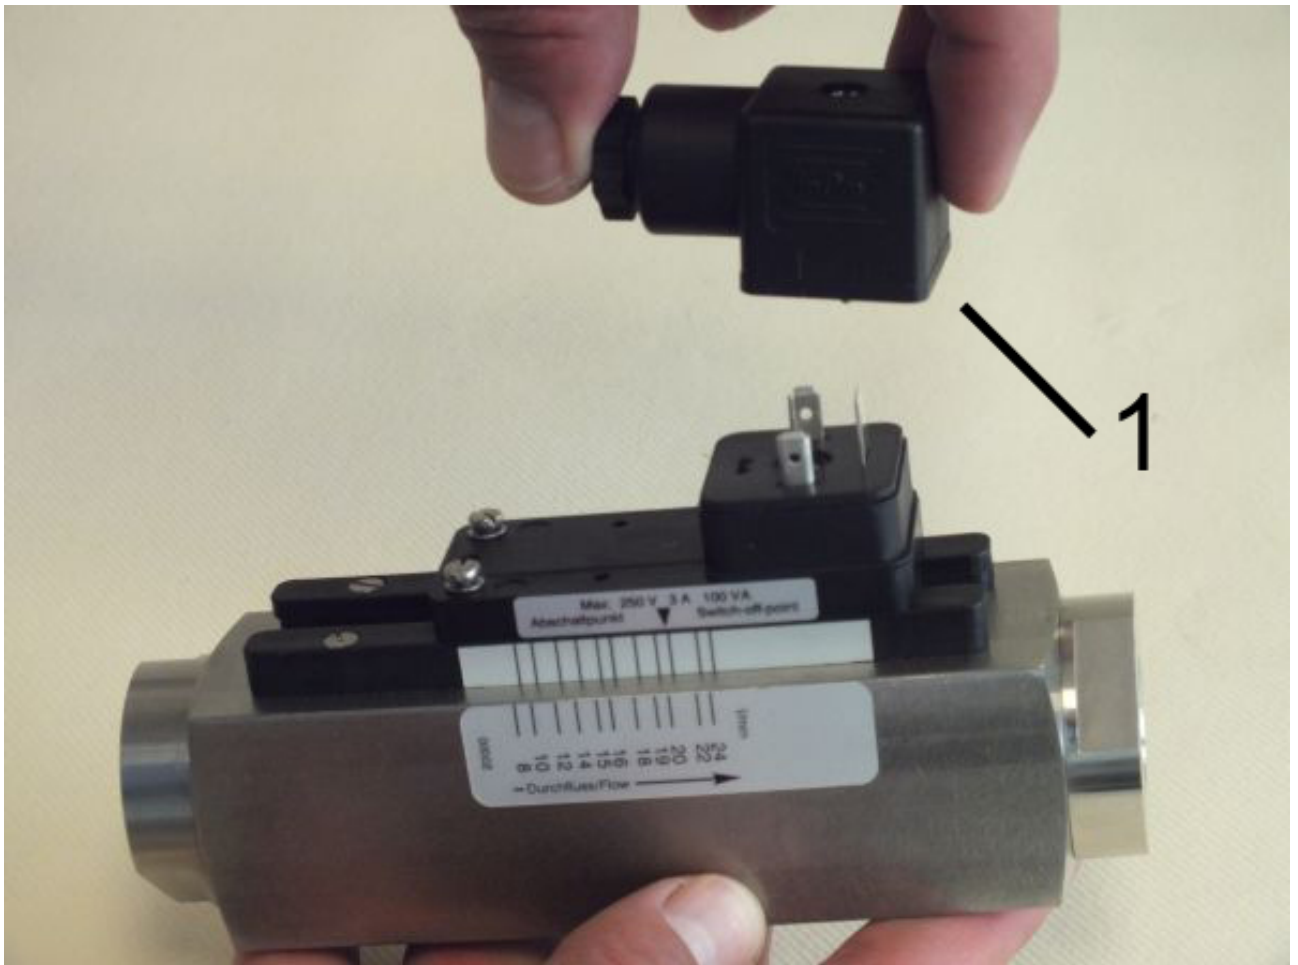

Fig. 28: Remove socket
2. ➔ Remove socket (Fig. 28/1)